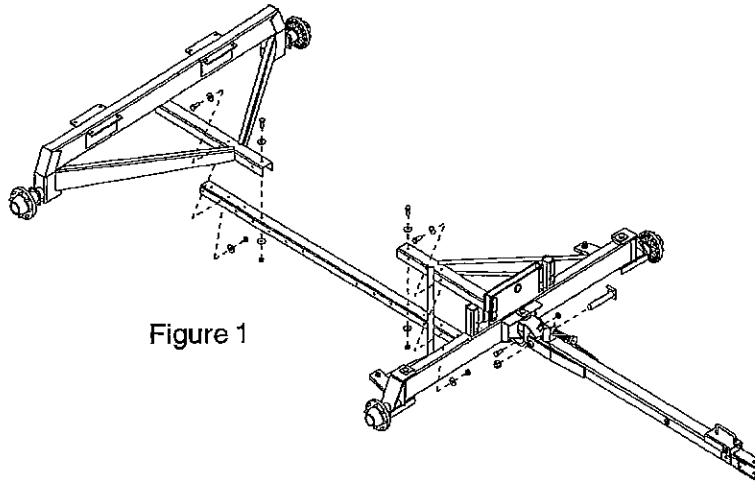

Figure 1
2. Mount the wheels on the wagon hubs. Fasten the wheels and tires to the hubs with the (8) wheel nuts torqued from 90 to 105 ft. lbs. Check tire pressure for appropriate PSI as listed on the tire. Two tires require liquid ballast, 75% full. See your local tire dealer for this service. The tires containing the fluid are to be mounted opposite the dump side for counter weight.
4. Couple the rear axle assembly to the reach pole with the (6) 5/8" x 1-1/2" Gr5 bolts, (12) 5/8" diameter hardened flatwashers and (6) 5/8" nylon insert lock nuts as shown in Figure 1. Do not tighten bolts.
Couple the front axle assembly to the reach pole with the (6) 5/8" x 1-1/2" Gr5 bolts, (12) 5/8" diameter hardened flatwashers and (6) 5/8" nylon insert lock nuts as shown in Figure 1. Do not tighten bolts.
4. Securely fasten the pole to the pivot assembly on the front axle using the machined bolt, castle nut and cotter pin as shown in Figure 1.